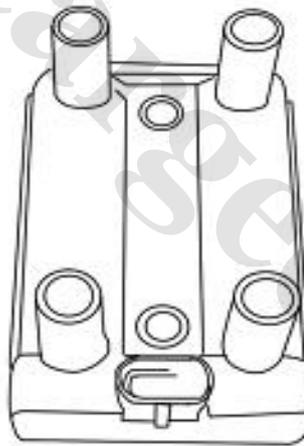

Fig. 1-17
(4) Trouble diagnosis: The short and open circuit of the two coils of the idle speed stepper motor will be monitored by the ECU. When such troubles occur, the engine MIL will be lighted and the engine will be operated under trouble mode. If the engine fails to work normally after check the steps of the stepper motor with a diagnostic instrument, the intake air pressure should be checked to ensure the normal operation of the piston of the stepper motor.
10. Ignition coil (Fig. 1-17)